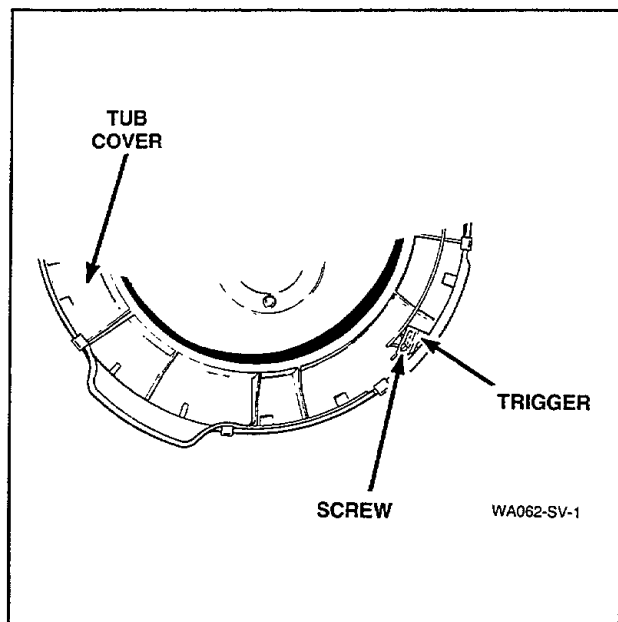

Figure 57
NOTE: The trigger is centered on the mounting screw at the factory, *Figure 57*.
- Loosen screw holding trigger to tub cover, *Figure 57*, move trigger to the right (increases sensitivity) or to the left (decreases sensitivity).